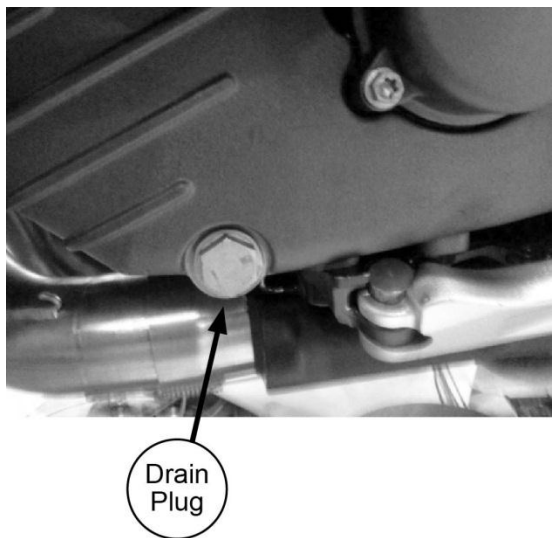

Figure 40. Engine oil drain plug left side
3. See Figure 40. Remove the left engine oil drain plug located in the crank case. Wipe any accumulated debris from magnetic tip on drain plug and replace the aluminum washer.
4. See Figure 40. Remove the right oil drain plug located under the clutch cover. Wipe any accumulated debris from plug and replace the aluminum washer.